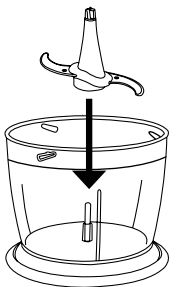

FIG. 1a
1. Assemble the chopper blade by placing the blade over the pin in the chopper bowl as shown in Fig. 1a.